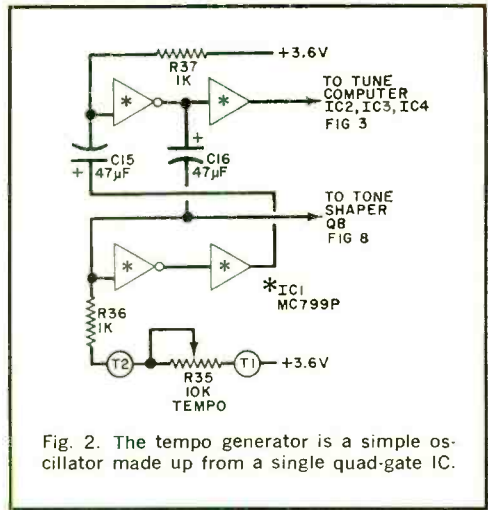

Fig. 2. The tempo generator is a simple oscillator made up from a single quad-gate IC.
**Tempo Generator.** This circuit, shown in Fig. 2, contains a single integrated circuit (IC1) operating as an astable multivibrator. Two square wave outputs are produced—one having a fast fall time and high drive capability for the tune computer, and the other for